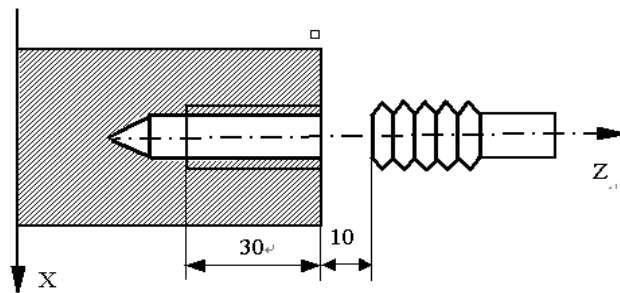

Fig. 3-89
- ① Z tool infeed (start spindle before G33 is executed);
- ② M05 signal outputs after Z reaches the specified end point in programming;
- ③ Test spindle after completely stopping;
- ④ Spindle rotation (CCW) signal outputs(reverse to the original rotation direction);
- ⑤ Z executes the tool retracts to starting point;
- ⑥ M05 signal outputs and the spindle stops;
- ⑦ Repeat the steps ①~⑤ if multi threads are machined.
**Example:** Fig. 3-89, thread M10×1.5